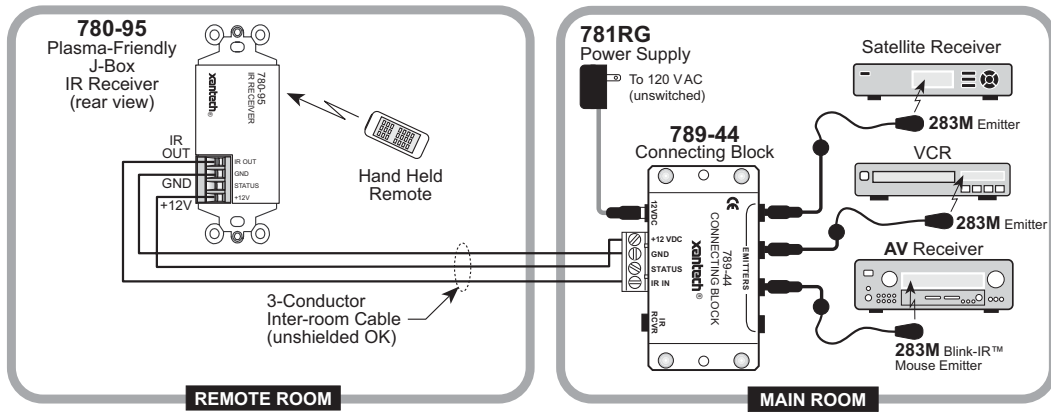

Figure 3 - Typical System Layout using 780-95, 789-44, 781RG, and 283M Emitters
2. Connect proper wires to the +12VDC, GND, STATUS (if applicable), and IR OUT terminals on the rear of the 780-95 as shown in **Figure 3**.
A typical system, with a 780-95, 781RG Power Supply and 283M Emitters plugged into a 789-44 Connecting Block, is shown in Figure 3: